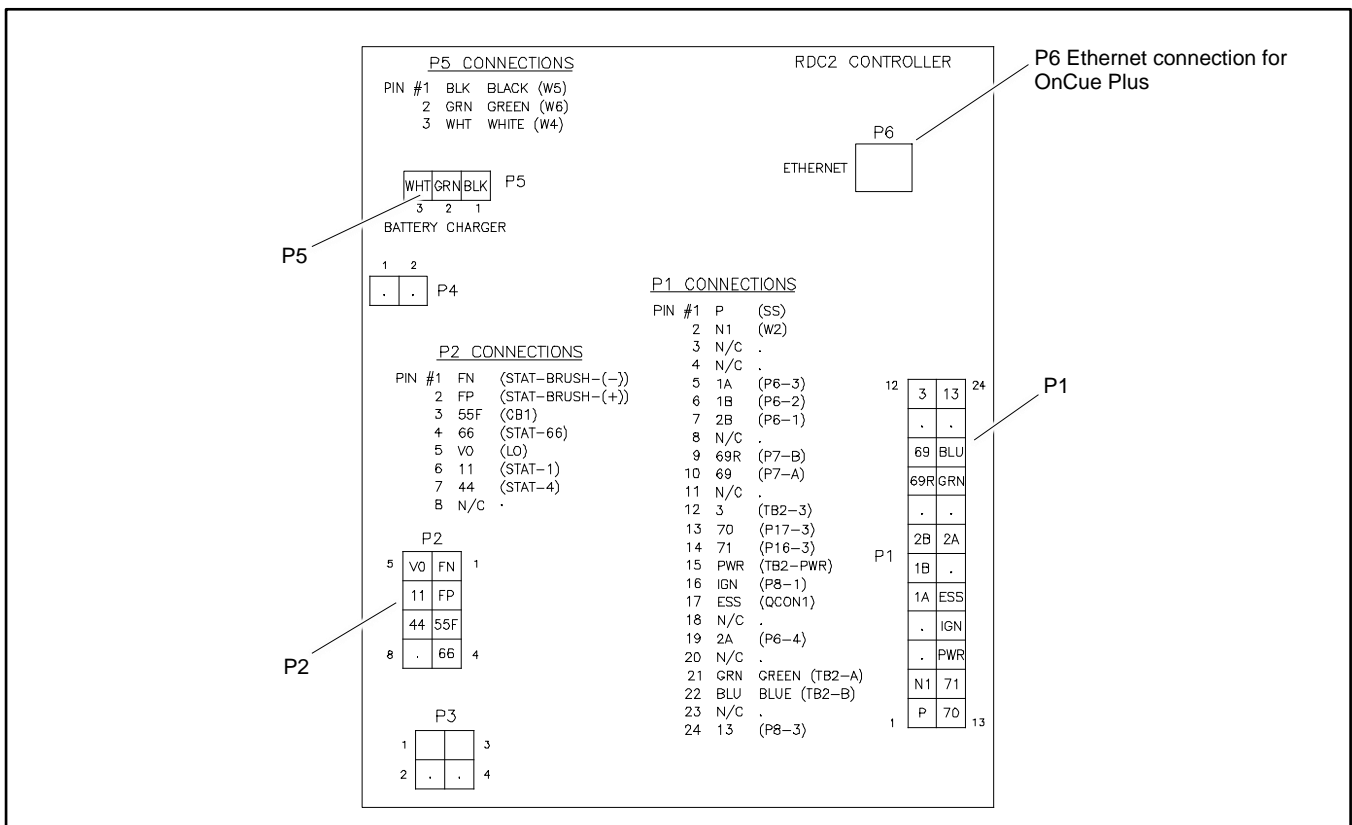

Figure 38 Controller Connections
6. Note the connections on the back of the controller, and then disconnect all harnesses and leads from the controller. See Figure 38 or the wiring diagram.